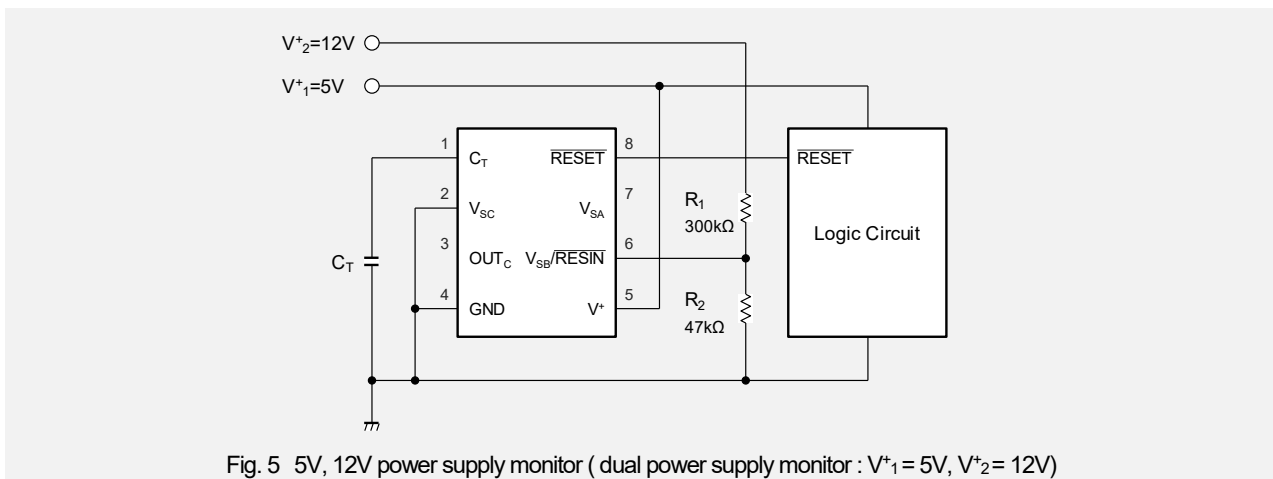

Fig. 5 5V, 12V power supply monitor ( dual power supply monitor :  $V^+_1 = 5V$ ,  $V^+_2 = 12V$ )
- $V^+_2$  detection voltage (falling, rising) is set by  $R_1$  and  $R_2$  according to following formula. In case of resistor value in Fig.5, the detection voltage (falling) is about 9.0 V and the detection voltage (rising) is about 9.2 V.